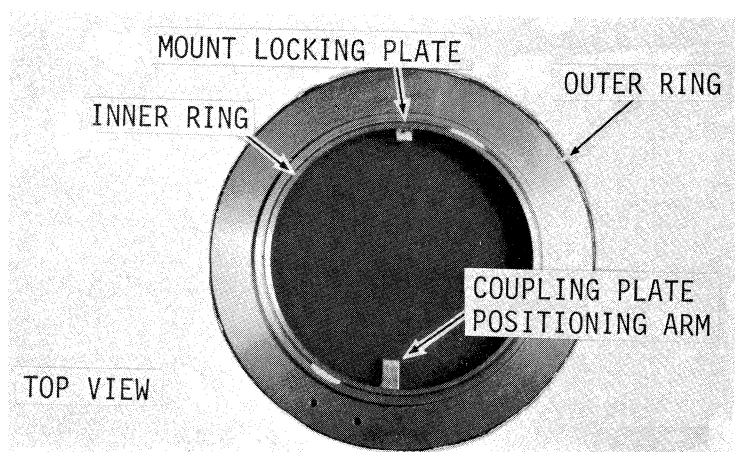

Fig. 65
13.1.2 Prepare Tool for use by rotating Inner Ring so that Diaphragm Plate Positioning Arm is opposite Mount Locking Plate (Fig. 65).